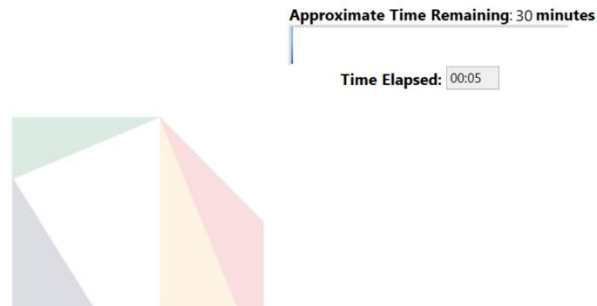

Figure 14: The Octa AutoPrep Station Timer
3. During the protocol, the Octa AutoPrep Station will initiate a countdown until the protocol is complete, as shown in Figure 14.